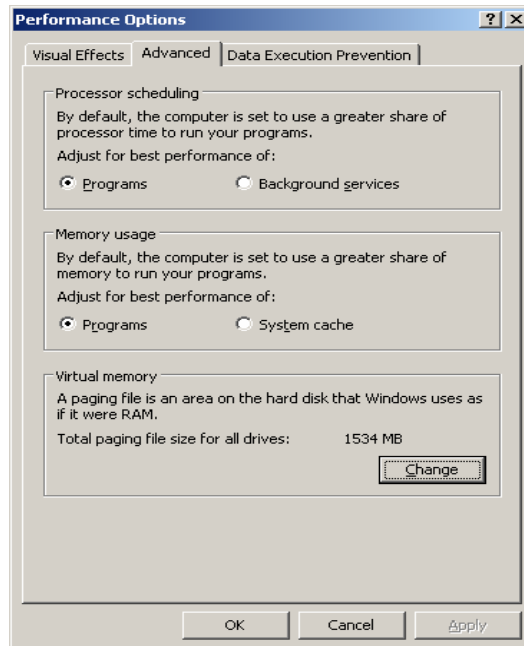

Figure 1-189. Performance Options Window
- e. In the Performance section, click on **Settings**. The "Performance Options" window is displayed (Figure 1-189). Select the **Advanced** tab.